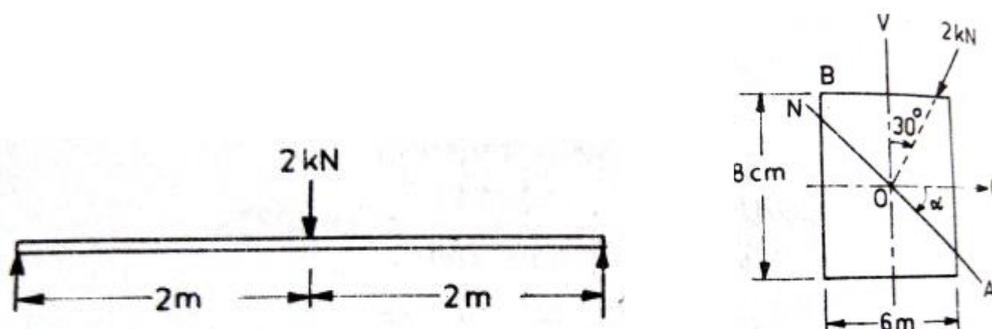

Fig.2
- A beam is loaded as shown in fig.2; determine the maximum deflection and stresses at B. Take $E = 210\text{Gpa}$. 12M